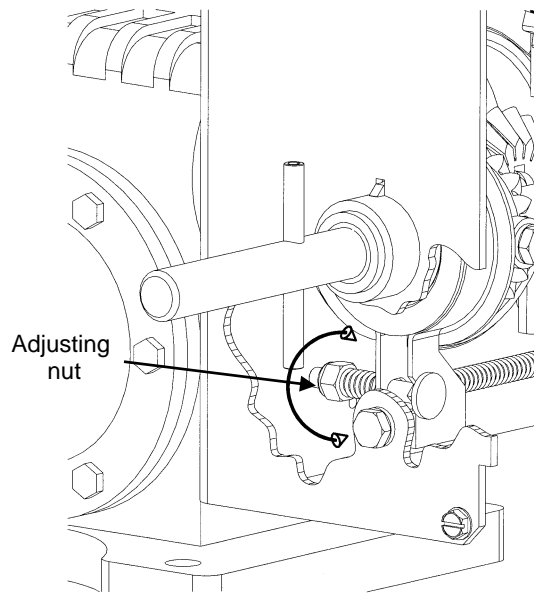

Figure 17 Manual operation system adjustment
3. The automatic hoist engagement system is adjusted in the factory. It may require adjustment in the field. Adjustment is necessary if no door movement occurs after two feet of pulled hand chain. Turn the adjusting nut clockwise (see figure 17) by  $\frac{1}{4}$  turn until the hoist engages after pulling one foot of chain. If the nut is too tight, the manual torque on the chain will be too heavy.